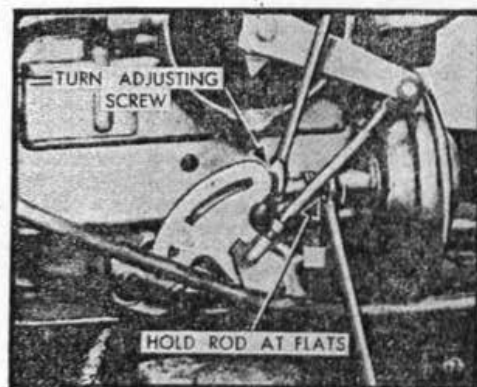

Fig. 32 Throttle control adjustment on Dynaflo equipped cars
2. Place selector lever in Drive (Dr) or Low (L) range and apply hand and foot brakes to prevent car movement.
3. With throttle valves in hot idle position, adjust throttle return check by turning the adjusting screw, Fig. 32, until $\frac{1}{8}$ in. clearance is obtained between the throttle lever and plunger when the plunger diaphragm is fully compressed. To prevent diaphragm damage, hold flats on screw shaft with a wrench while adjusting screw is being turned.